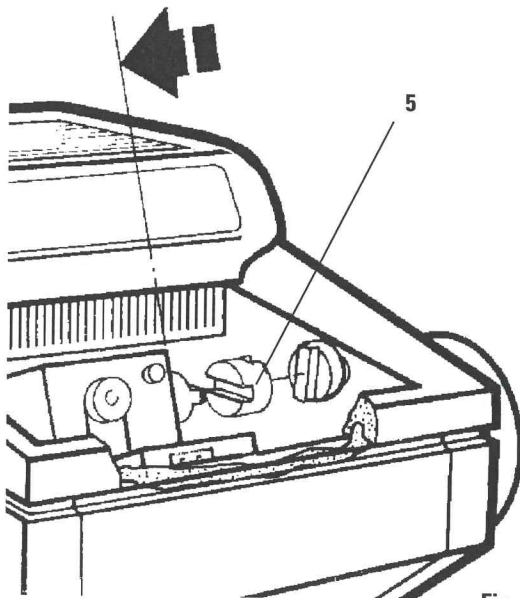

Fig. 26
- Apply a drop of oil to the plastic coupling (5, Fig. 26).
- Lubricate the specimen cylinder (1):